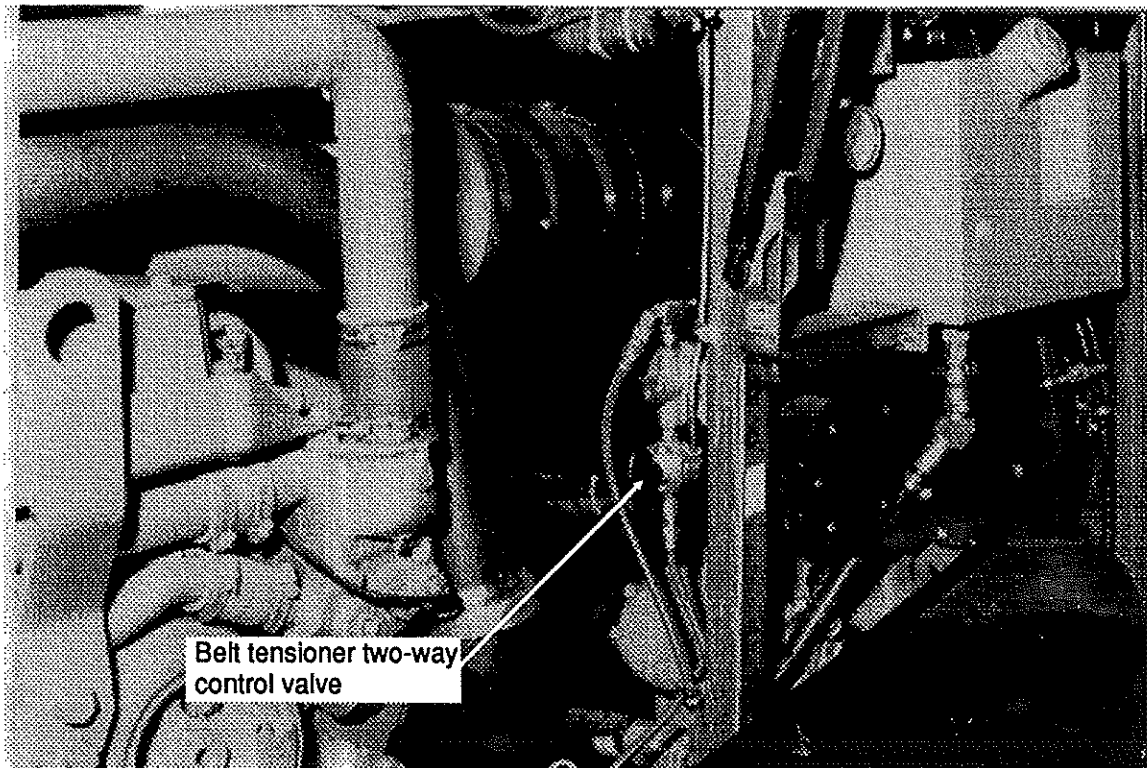

Fig. 17
2. Locate the belt tensioner two-way control valve (see fig. 17), then turn handle counterclockwise in order to reverse pressure in belt tensioner air cylinders, thus releasing tension on belts.